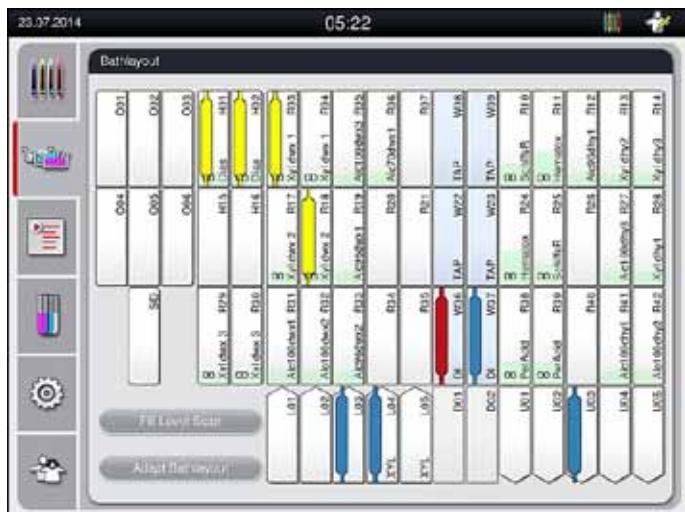

Fig. 84
8. The detected handle color and the assigned program abbreviation are displayed in the bathlayout at the respective station (→ "Fig. 84").
- Bathlayout with station details (→ "Fig. 84").